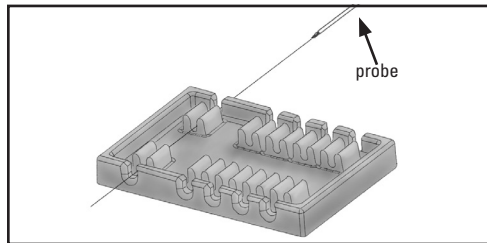
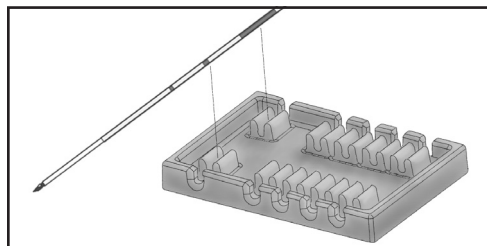

Figure 1
Figure 2
3. Attach the Spacer to the first probe by either sliding the probe through (as shown in Figure 1) or snapping it onto the probe shaft (as shown in Figure 2).
4. Attach the second probe to the Spacer by either sliding the probe through (as shown in Figure 1) or snapping it into the probe shaft (as shown in Figure 2).